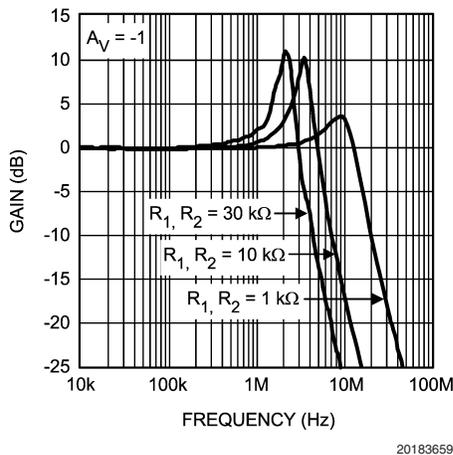

FIGURE 4. Closed Loop Frequency Response
As shown in *Equation (2)*, as the values of R_1 and R_2 are increased, the magnitude of the poles are reduced, which in turn decreases the bandwidth of the amplifier. *Figure 4* shows the frequency response with different value resistors for R_1 and R_2 . Whenever possible, it is best to chose smaller feedback resistors.